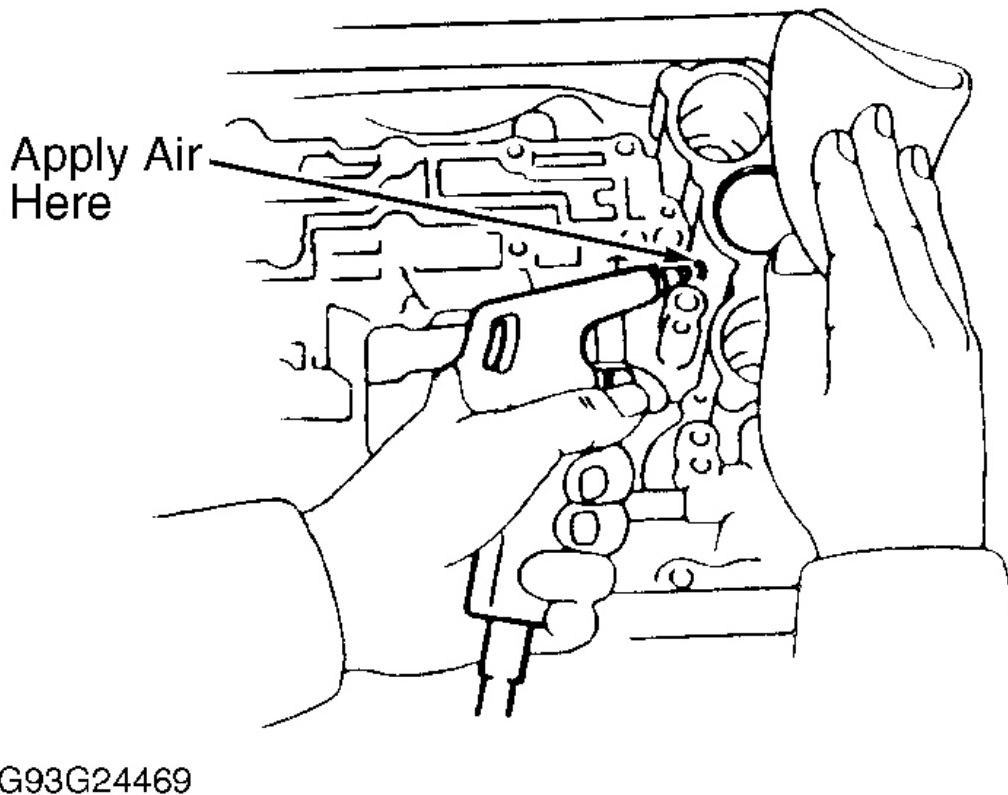

Fig. 10: Removing 2nd Brake Accumulator Piston & Springs
3. Loosen accumulator cover bolts evenly until spring tension is released. Remove cover and gasket. Remove forward clutch and direct clutch accumulator pistons and springs. Apply 14 psi (1 kg/cm²) of compressed air to oil passage to force 2nd brake piston and springs from bore. See **Fig. 10**.